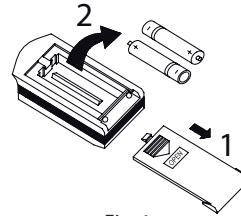

Fig. 1
1. Lightly press the place marked 2, in the direction of the arrow to remove the back cover of wireless remote control unit. (Fig. 1)
2. Remove the old batteries. (Fig. 1)